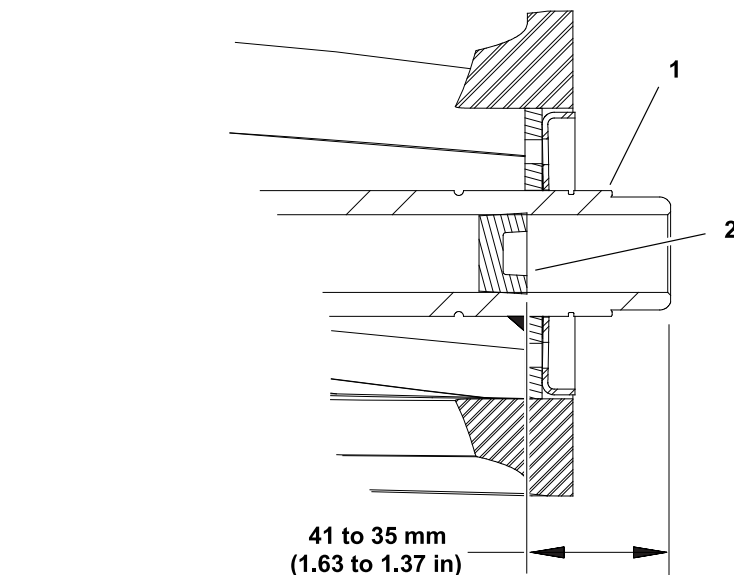

Figure 183
1. If removed, install new reel shaft plugs into cutting reel shaft. For cutting unit serial no. prior to 315000001, make sure plastic plug is pressed flush into end of threaded insert. For cutting unit serial no. 315000001 & Up, make sure plastic plug is pressed unto reel shaft 41 to 35 mm (1.63 to 1.37 in.) below the end of the shaft (Figure 183).